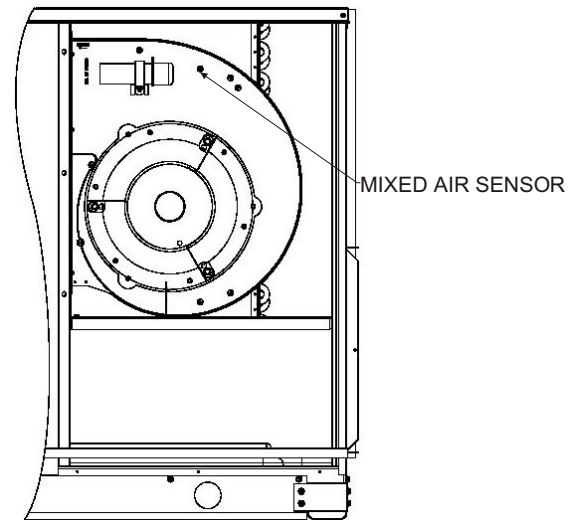

Figure 4
Locate the mixed air sensor (MAS) on the blower deck next to the blower intake opening using the self-tapping screw provided. Connect MAS to two (2) prewired red wires in blower compartment. **See Figure 4.**